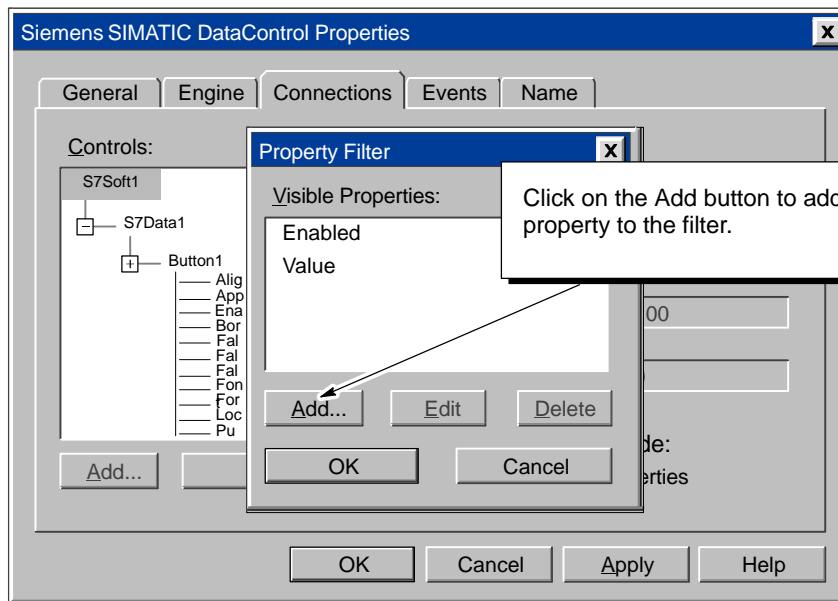

Figure 1-7 Adding Properties to the Filter
5. As shown in Figure 1-7, click on the Add button to enter additional properties to display. Use the Edit button to correct entries and the Delete button to remove entries.